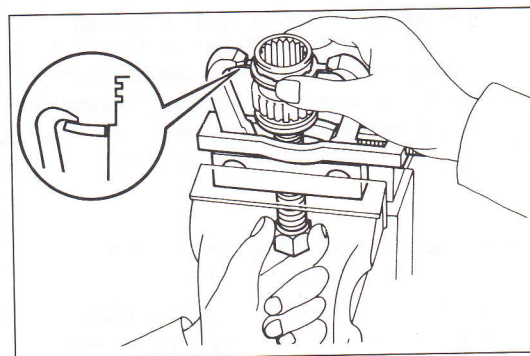

Fig. 4-17. Position of puller's screw being adjusted. Inset shows relationship of cam follower to puller claw and inner hub with screw correctly adjusted.
- Adjust the puller's screw to the position indicated in Fig. 4-17. To do this, temporarily install the cam follower on the inner hub, and then install the assembled parts in the puller as shown. Adjust the puller's screw so that the puller's claws will engage the tabs of the cam follower, and will hold the cam follower in the position shown in the inset of the illustration. Without altering the screw's position, swing the claws aside and remove the cam follower from the inner hub—leaving the inner hub in the puller.